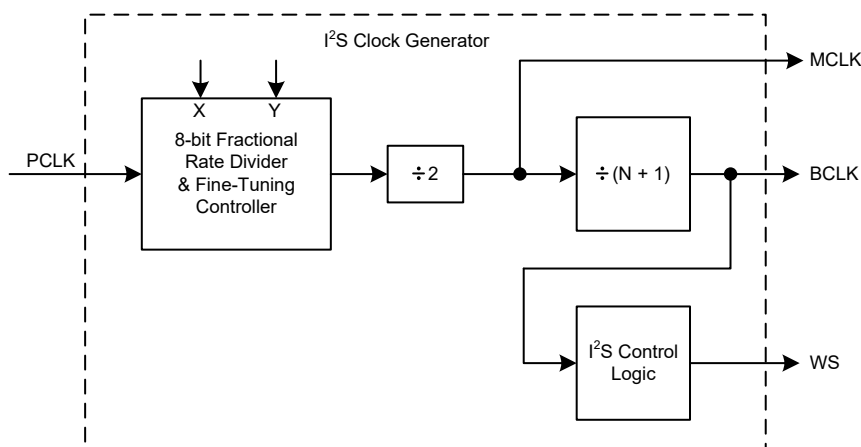

Figure 196. I²S Clock Generator Diagram
The main (MCLK) and bit clock (BCLK) rates for the I²S are determined by the values in the I2SCDR register. The required I²S bit clock rate setting depends on the desired audio sample rate desired, the format (stereo/mono) used, and the data size. The main clock rate (MCLK) is generated using a fractional rate divider which is a divided down PCLK frequency of the I²S. Values of the numerator (X) and the denominator (Y) must be chosen to produce a frequency twice that of the main clock (MCLK). The output frequency of the divider is divided by 2 in order to get the duty cycle of the output clock more even. The I²S clock generator block diagram is shown in Figure 196. The equation for the fractional rate divider is: